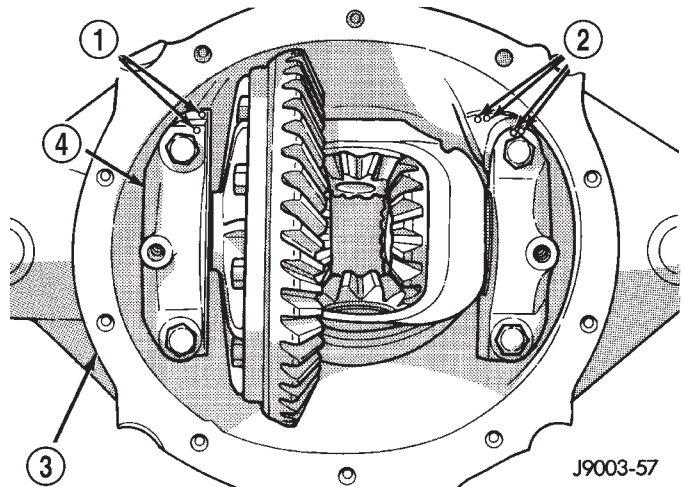

Fig. 19 Bearing Caps & Bolts
(1) Apply a coating of hypoid gear lubricant to the differential bearings, bearing cups, and threaded adjusters. A dab of grease can be used to keep the adjusters in position. Carefully position the assembled differential case in the housing.
(2) Observe the reference marks and install the differential bearing caps at their original locations (Fig. 19).